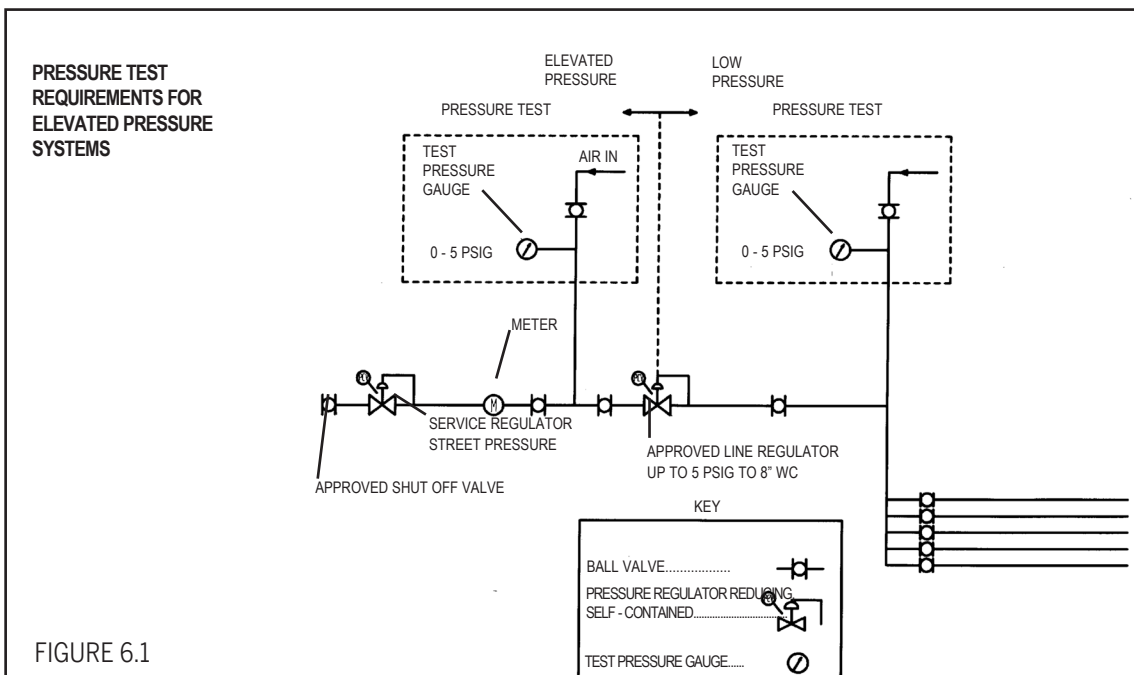

FIGURE 6.1
- The elevated pressure system requires a two-part pressure test. (See Figure 6.1)